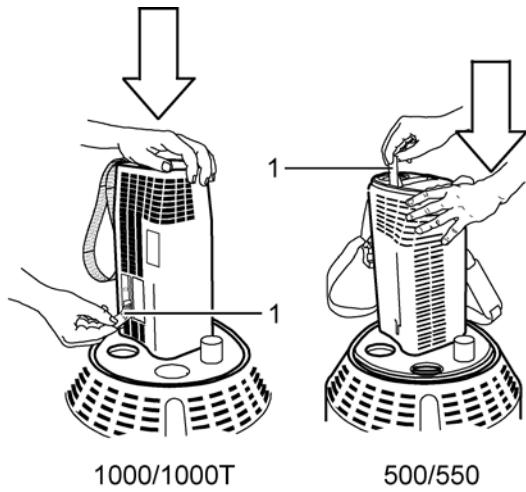

Figure 10: Filling the Portable Unit
3. Hold the Companion Portable unit with both hands and position the contoured case over the matching recessed area in the Stationary unit cover (Figure 10).